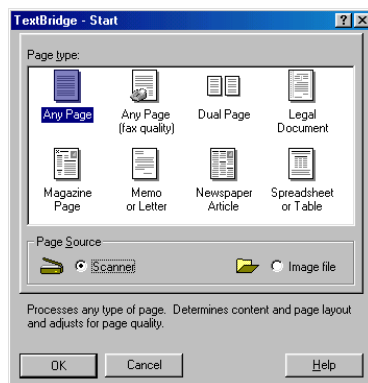

Figure 23: Selecting 'Page Source'
4. Set 'Page Source' to 'Scanner' by clicking on it with the mouse (Figure 23).